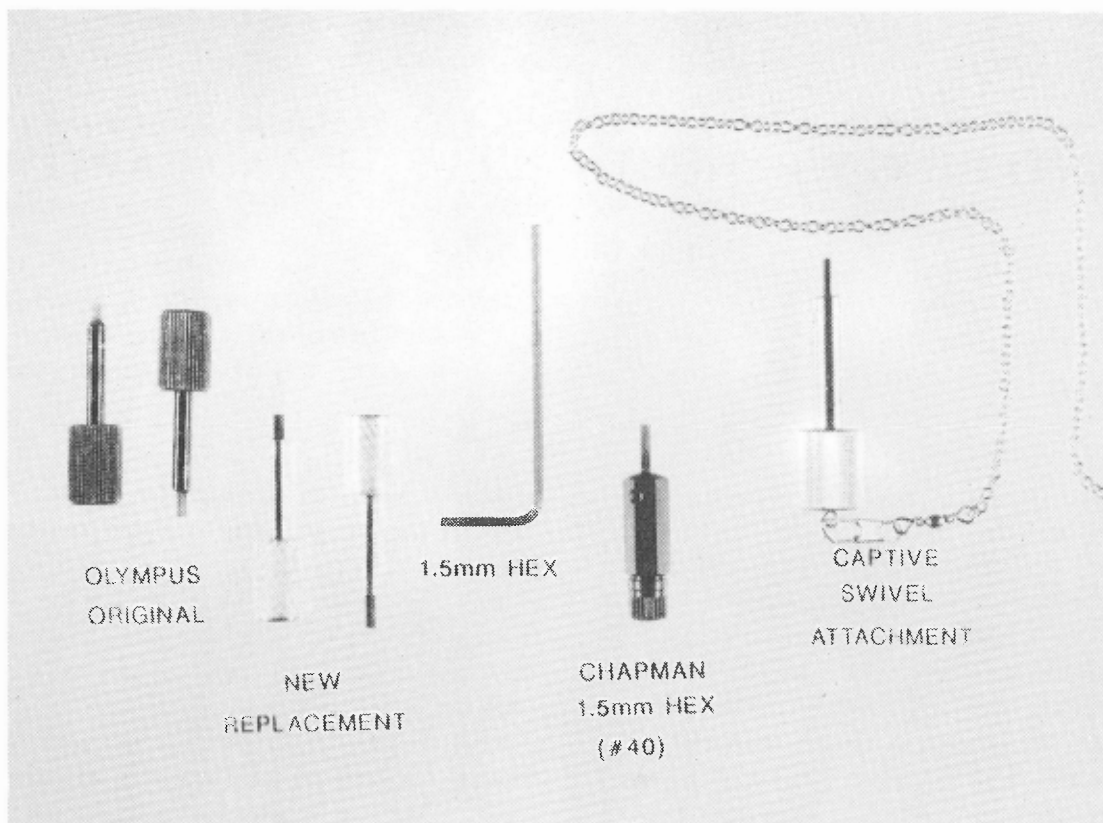

Figure 1: A variety of centering wrenches. See text.
I asked myself, if I have a B-Max 50 and lose the wrenches for some reason, what do I do? Pay the \$80 for a new pair or \$34 for a pair that does not fit? My answer is *neither*. I went to a hardware store and bought a 1.5 mm hex L-key wrench; cost, 20¢—see Figure 1, “1.5 mm HEX.” This is the “short-arm L-key”; it is 1-3/4 inch long. The “long-arm L-key” is 3 5/64 inch long and costs 22¢. They don't have the nice knurled handles, but they work, and you can buy a lot of them for \$80. Some local hardware stores may not carry metric hex wrenches; in which case,
A handle would be nice, though; and so I thought about my Chapman “G” set, which consists of 19 bits that are accessories to my Chapman gunsmithing screwdriver set. Sure enough, one of the bits was a 1.5 mm HEX #40 (Figure 1). Now, this bit is designed to fit in the end of a number of different kinds of drivers, but note that the body itself is hexagonal, and it is knurled on the end, so that the bit itself acts as its own non-rolling handle. I'm sure that the single bit is available from Chapman, but the whole set of 19 different ones is available at *less* cost than *one* of the new replacement centering wrenches. [One source for the Chapman screwdriver set and the “G” set is the gunsmithing supplier, Brownells, in Montezuma, Iowa (515) 623-5401].